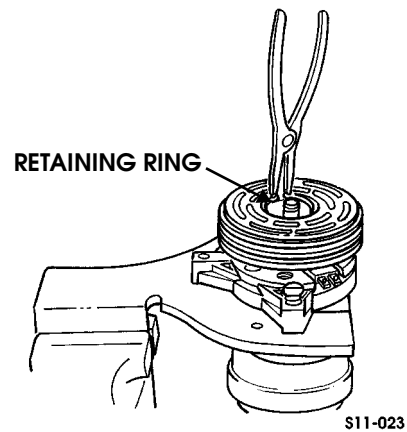

Figure 11-69: Seal Retaining Ring
4. Using snapping pliers, install new seal retaining ring with its flat side against the seal (Figure 11-69).